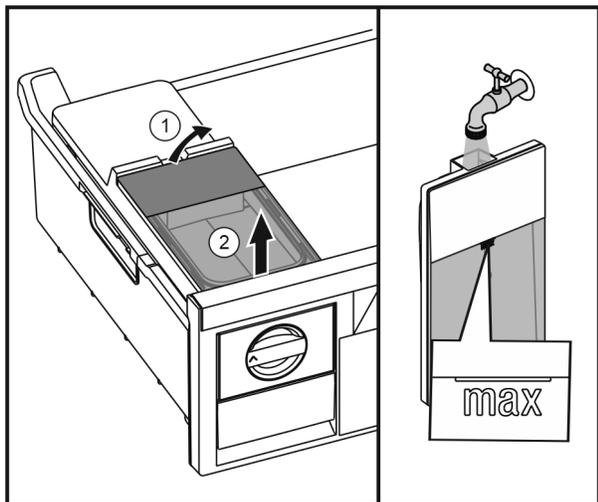

Fig. 37
- ▶ Lift up the water tank at the rear Fig. 37 (1) and take it out upwards Fig. 37 (2).